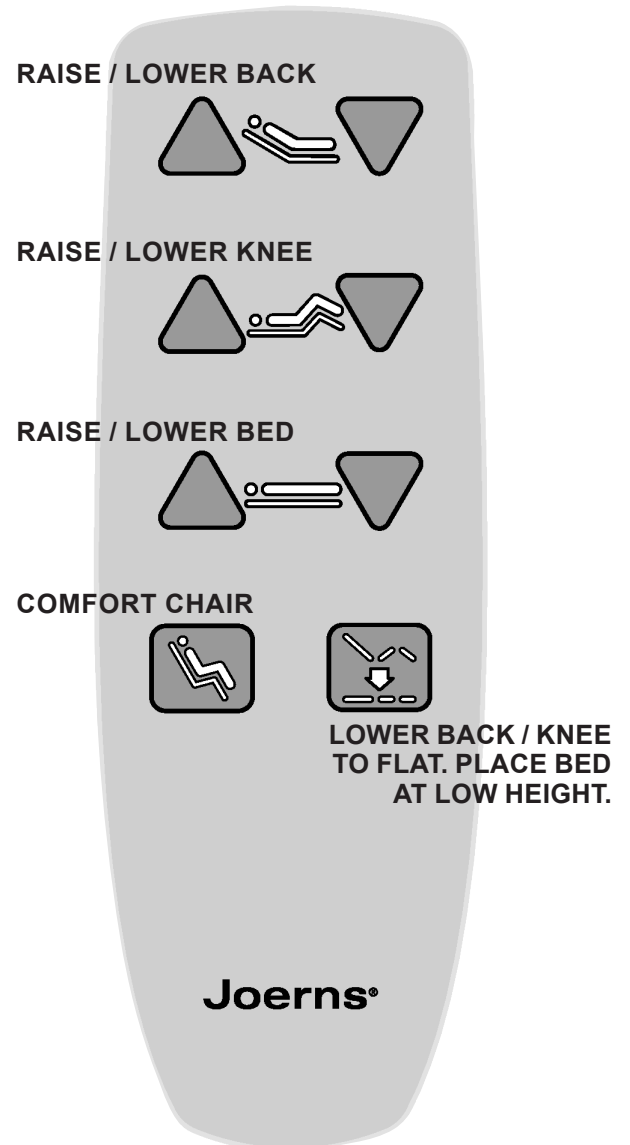

Figure 4
1. Your Bari10A bed comes standard with Pendant Control (Figure 4). Resident/patient and staff can use the Pendant to adjust all mattress support platform sections to desired positions.